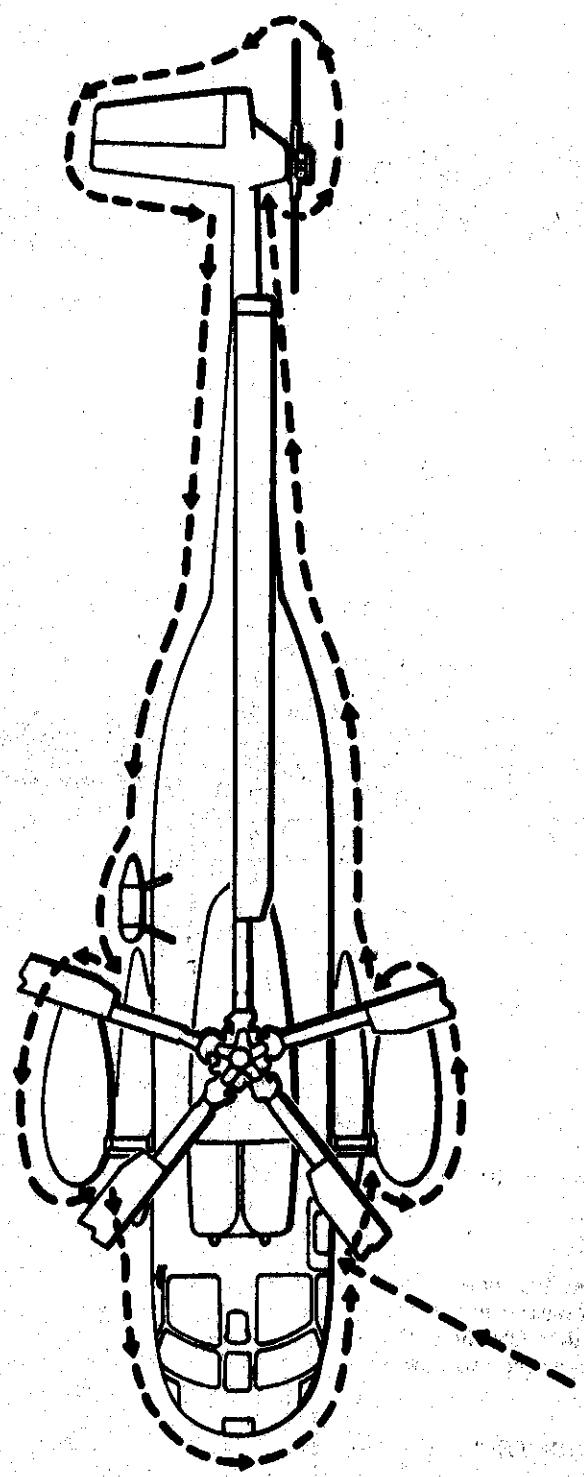

Figure 2-1. Exterior Inspection
1. Aircraft general - CHECKED. The pilot will make a walk around in accordance with figure 2-1, checking for visible fuel and oil leaks, security of inspection panels and doors, and presence of foreign matter such as ice, snow, and frost.